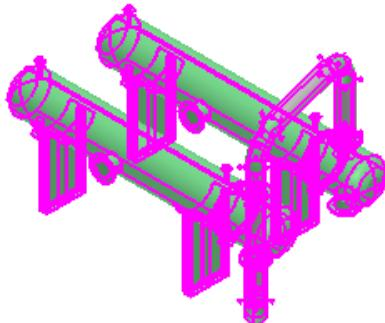

Figure 57: Selected Pipe Run and Equipments
6. While holding the CTRL key, select the equipments **Copy of 40E-101A** and **Copy of 40E-101B** along with the mirrored pipe run, as shown in Figure 57.